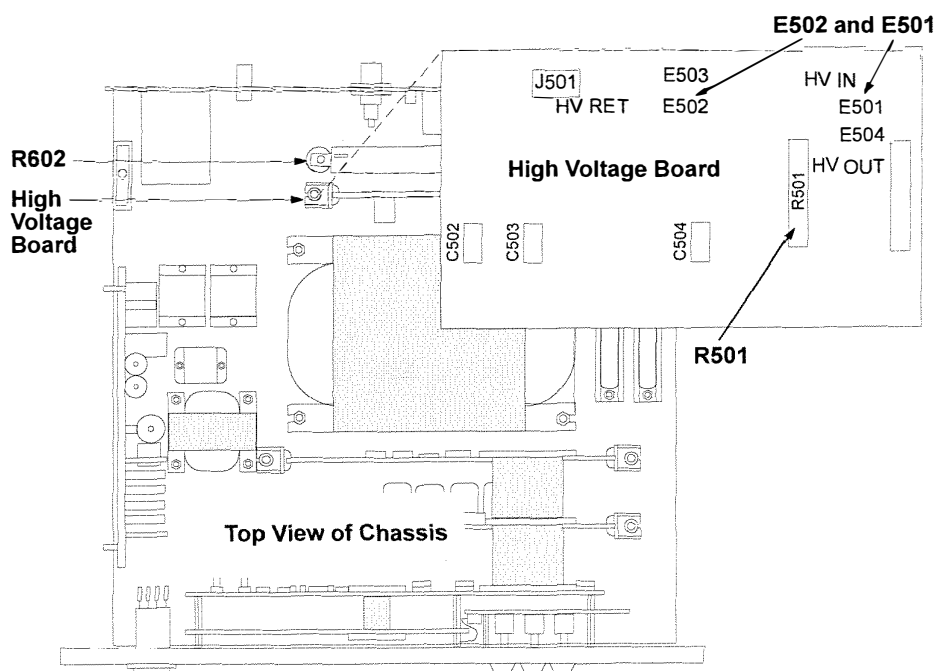

Figure 4-4. Calibration Components on the HV Board
12. On the HV Board, short E501 and E502 together with a jumper wire (Figure 4-4).
13. Short R602 (500Ω, 100W mounted to the chassis) with a jumper wire (Figure 4-4).
20. Remove the jumper at E501 and E502, and short out R501 on the HV board (Figure 4-4).